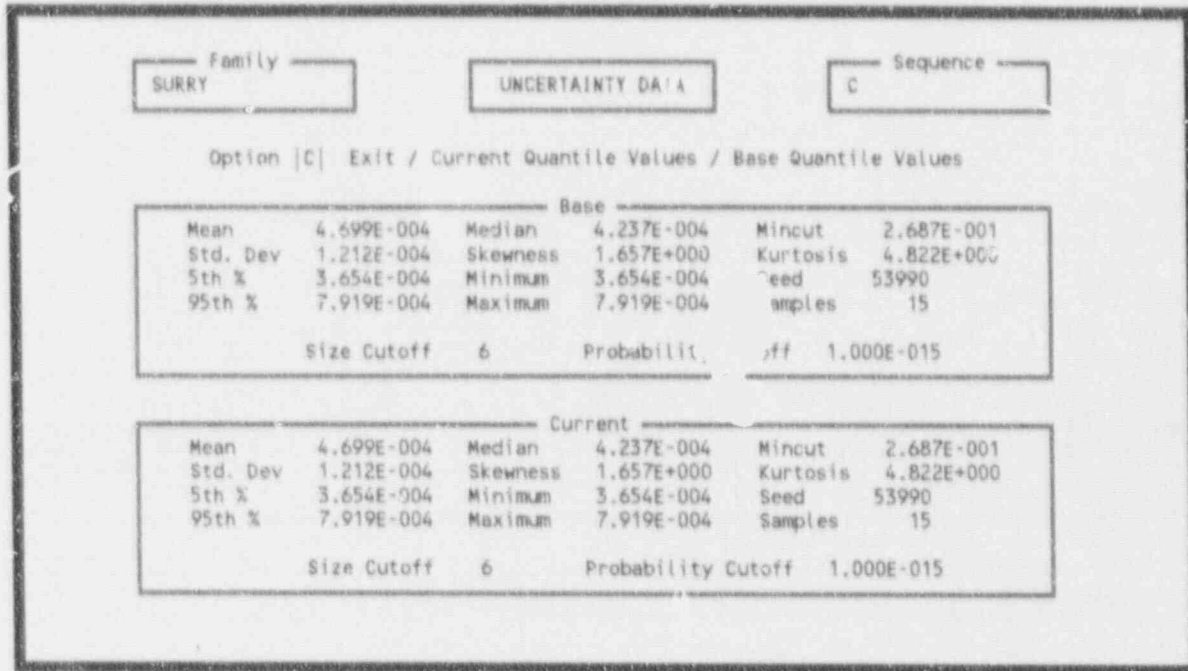

Figure 110. Uncertainty data display.
**4.4.1.4 Uncertainty.** The Uncertainty option displays the distribution and confidence limits of a system for both base and current data values. These values were calculated using either the Latin Hypercube simulation technique or the Monte Carlo simulation technique. To invoke this option, type  (Uncertainty) in the option field of the System Display screen, highlight the desired system (or don't highlight a system to display the uncertainty data for the entire family), and press <Enter>. Figure 110 shows the base and current case uncertainty data for the highlighted system.